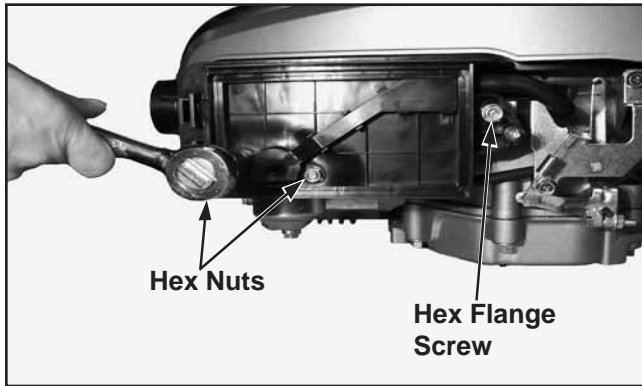

Figure 10-50. Installing Air Cleaner Base.
- Slide the air cleaner base onto the carburetor studs. Attach the base by loosley screwing the two hex nuts onto the studs, and the hex flange screw into the crankcase. See Figure 10-50.